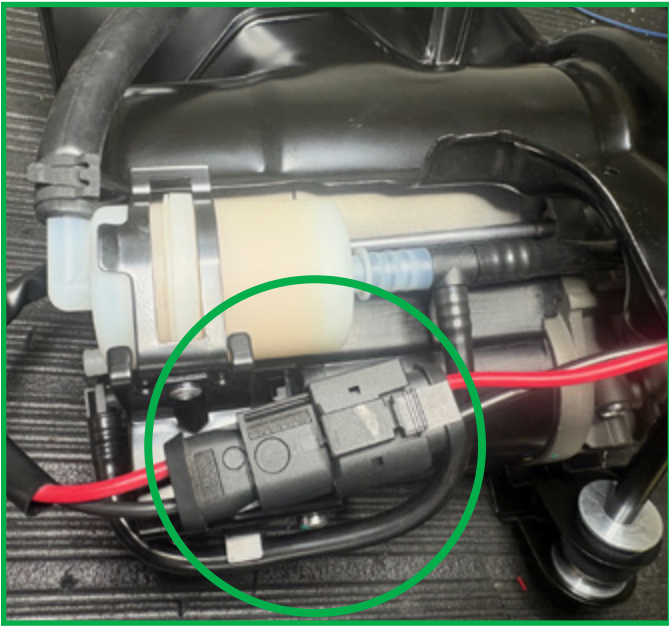

FIGURE 2
4. Disconnect the two (2) electrical connectors. (Figures 2, 3)